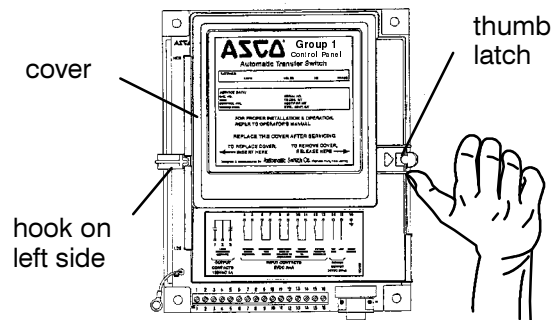

Figure 4-1. Control Panel cover latch.
3. Remove cover from the control panel by releasing latch on right side with your thumb. See Figure 4-1.